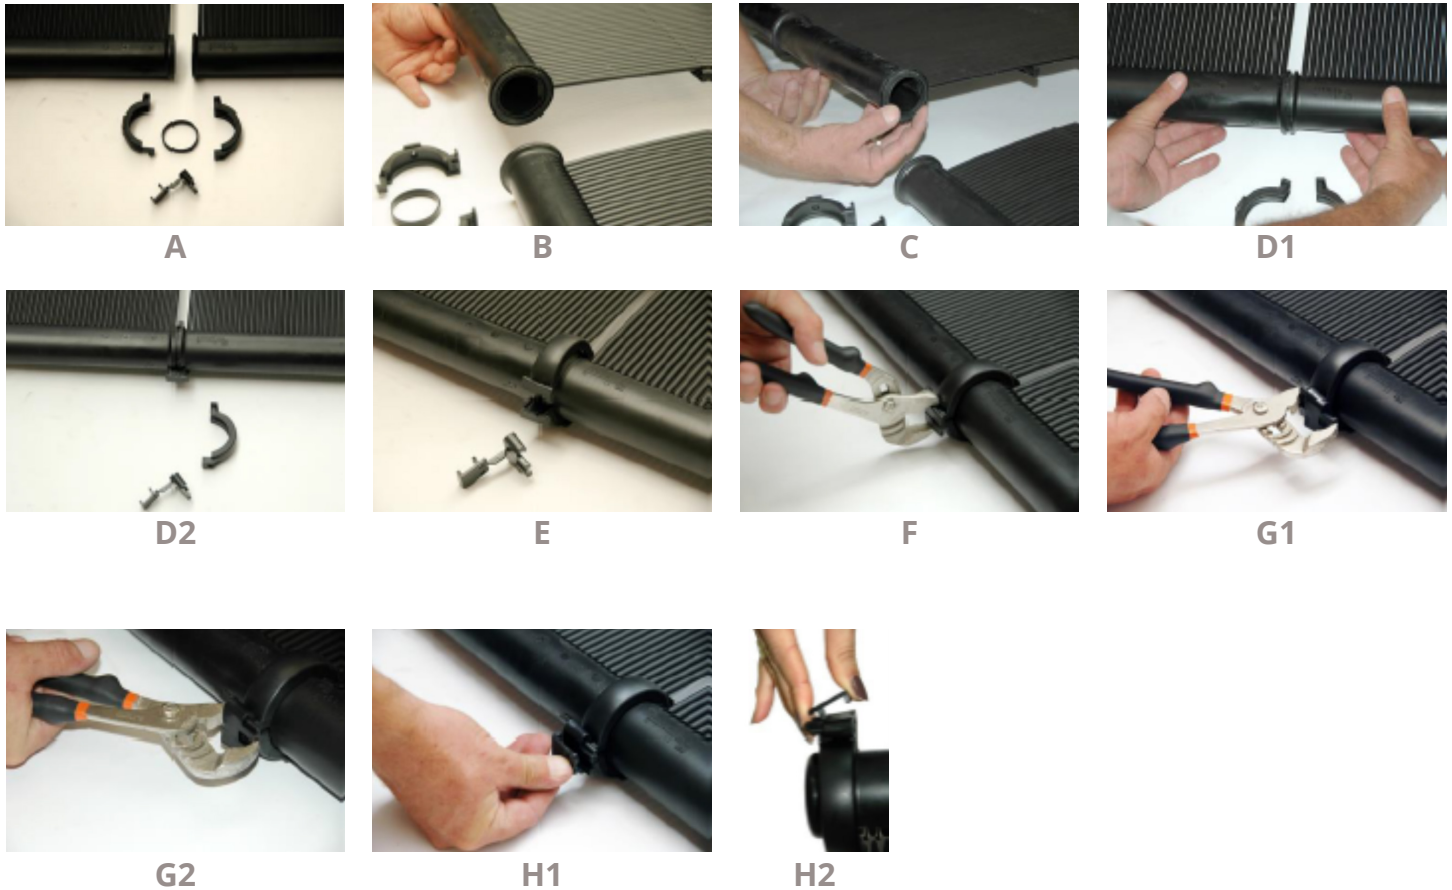

Fig. 3
1. Place two collectors next to each other. The spacer bars that hold the individual riser tubes together should be facing down. Lay a plastic collector clamp top, bottom, gasket, and latch where the two manifolds meet. (Fig. 3-A)
3. Spray the gasket with silicone and insert it into the groove of one of the manifolds. Make sure that the gasket is fully seated into the manifold groove by pushing firmly with your thumb all the way around the gasket. (Fig. 3-B)
4. Place the bottom half of the plastic collector clamp under the collector manifold with the hook portion of the collector clamp facing toward the riser tubes. (Fig. 3-C)
5. Seat both manifolds together by inserting the gasket into the opposite manifold groove and placing the ends of both manifolds into the open space in the collector clamp bottom. (Fig. 3-D)
6. Interlock the top half of the collector clamp with the hook on the bottom half. Swing top half over top of collector manifolds. Squeeze the top and bottom portions of the collector clamp together using channel lock pliers and lock both halves of the clamp together using the latch. (Fig. 3 - E & F)
7. Use channel lock pliers to tighten the clip grip by squeezing it with reasonable force until it seats flush or even slightly farther so it cannot slide out of its position. (Fig. 3-G)
8. Insert locking clip into slots on latch. (Fig. 3-H)